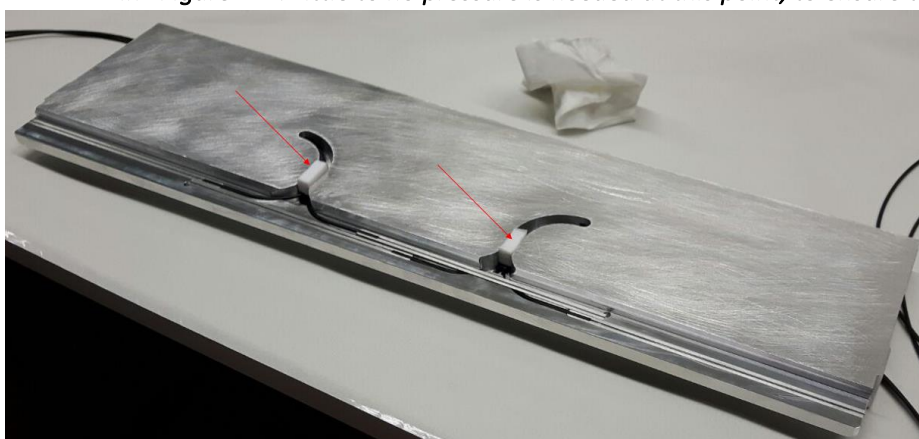

Figure 22 Teflon space holder into the routing groove
3.2.3.6 Place the Teflon space holder into the routing groove to insure that the cables sticks to the glue bath as shown in "Figure 22". Little to no pressure is needed at this point, to ensure the fibre in the cables are not damaged.